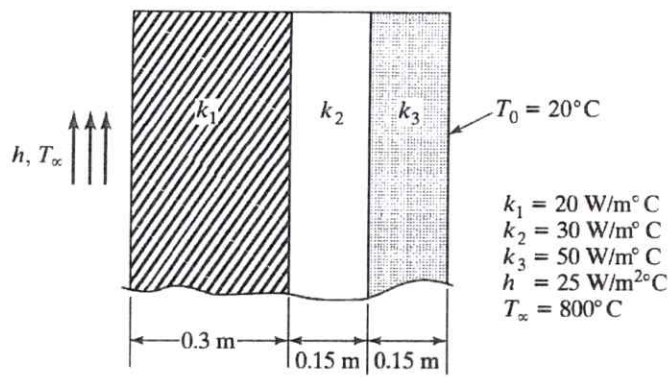

Fig.5.
- A composite wall consists of three materials, as shown in Fig. 5. The outer temperature is $T_0 = 20^\circ\text{C}$. Convection heat transfer takes place on the inner surface of the wall with $T_f = 800^\circ\text{C}$ and $h = 25 \text{ W/m}^2 \cdot ^\circ\text{C}$. Determine the temperature distribution in the wall.